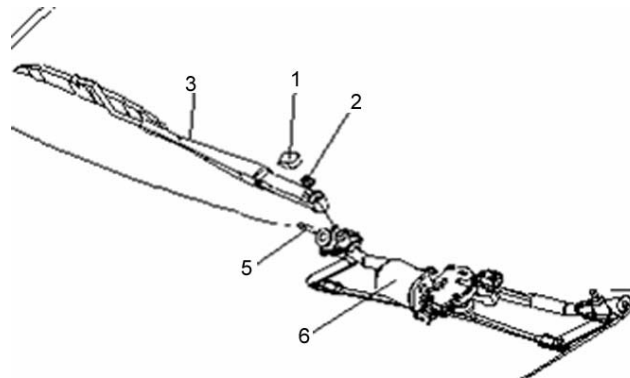
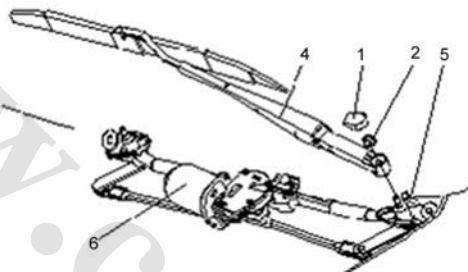

Fig. 4-91
Fig. 4-92
1. Layout diagram of wiper and washer system Fig. 4-91 and Fig. 4-92